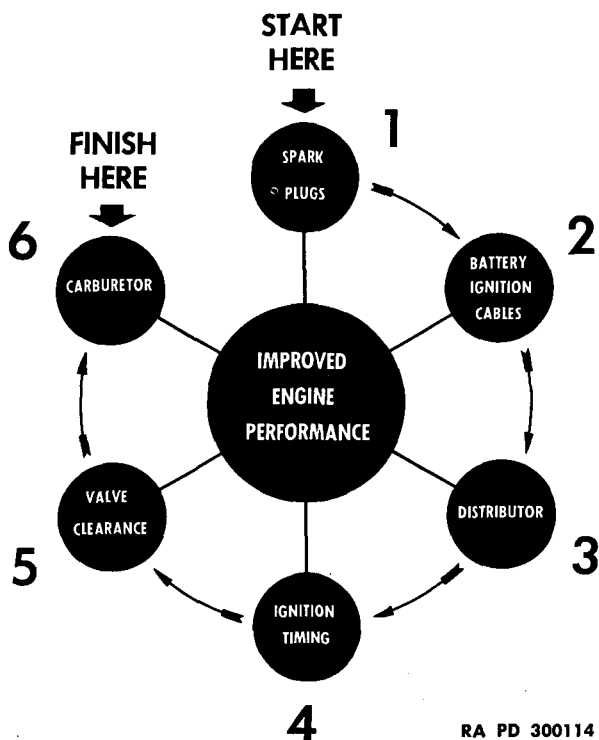

Figure 18—Tune-up Chart
a. **Description.** The engine tune-up is the orderly process of checking engine and accessory equipment to determine if they are within original specifications. The proper equipment, such as compression gage and timing light, should be employed. Chart shows the proper sequence of the operations (fig. 18), which must be performed under normal operating temperature.